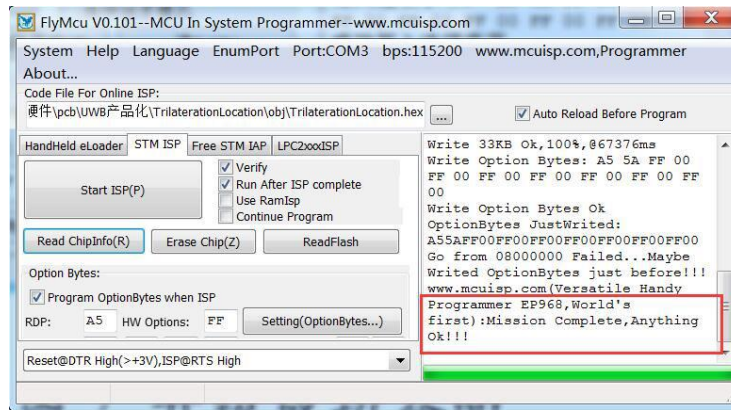

Figure 7 Upgrade succeed
(3) Click on “Start ISP(P)” to upgrade the code. Once succeed, the GUI of FlyMcu looks like Figure 7.